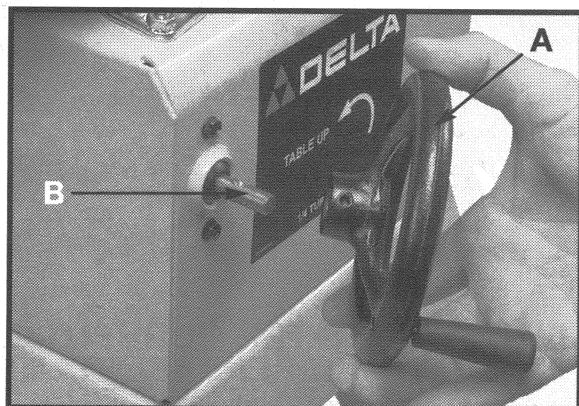

Fig. 3
1. Place handwheel (A) Fig. 3, on shaft (B) and align set screw with drilled recess in shaft.